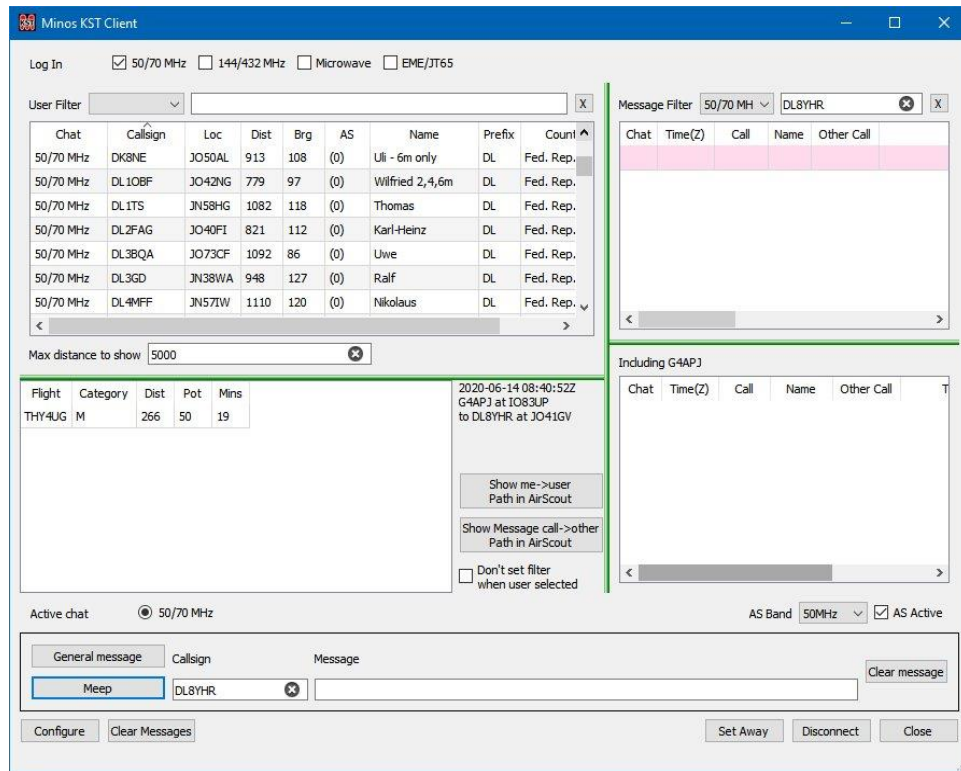

Figure 157 – Airscout operational in KST Client
Once the connection is established¹⁴⁰ additional information (AS) is displayed in the User panel (on the left), and a new panel appears bottom left (Figure 157).